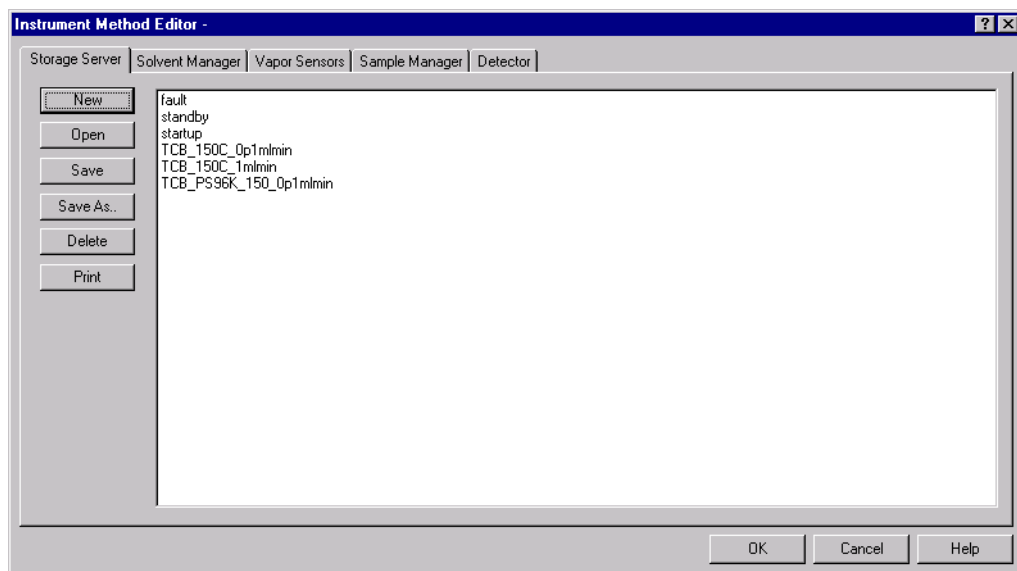

Figure 3-17 Storage Server Page
1. From the Interactive Mode window (Figure 3-3), select Tools > Instrument Method Editor. The Storage Server page of the Instrument Method Editor dialog box appears (Figure 3-17).
1. Select Setup > Current Instrument Method from the Interactive Mode window (Figure 3-3). The Instrument Method Editor dialog box appears (Figure 3-17). Click the Storage Server tab.